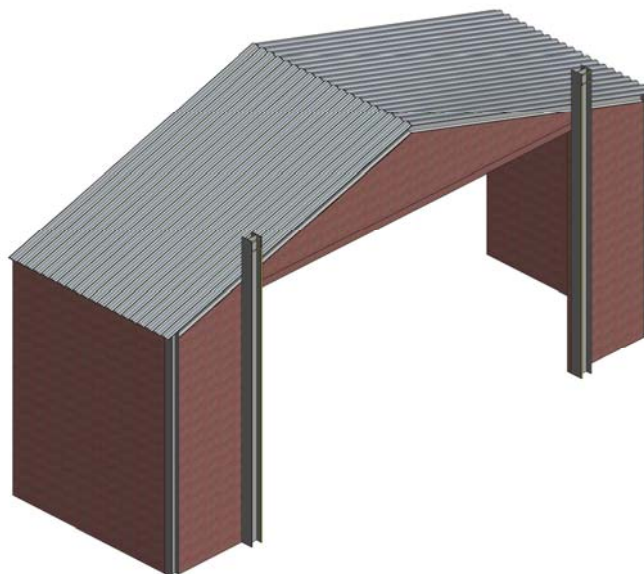

Figure 13b
13.3 Cantilever tracking extensions above the building (Figure 13b):